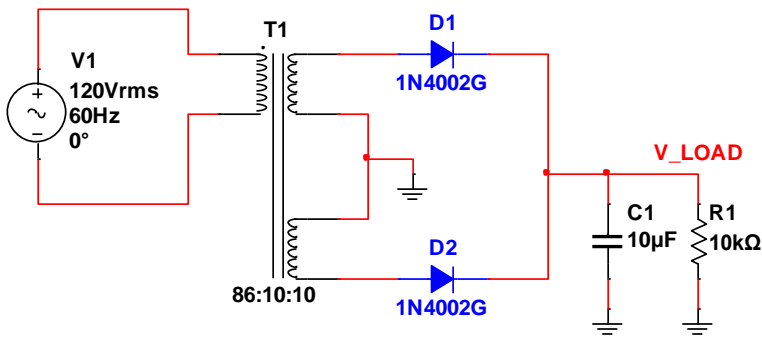

Fig. 3: Circuit with the 10uF filter capacitor.
- **TASK 2:** Now add a 10 uF filter capacitor, as shown in Fig. 3.